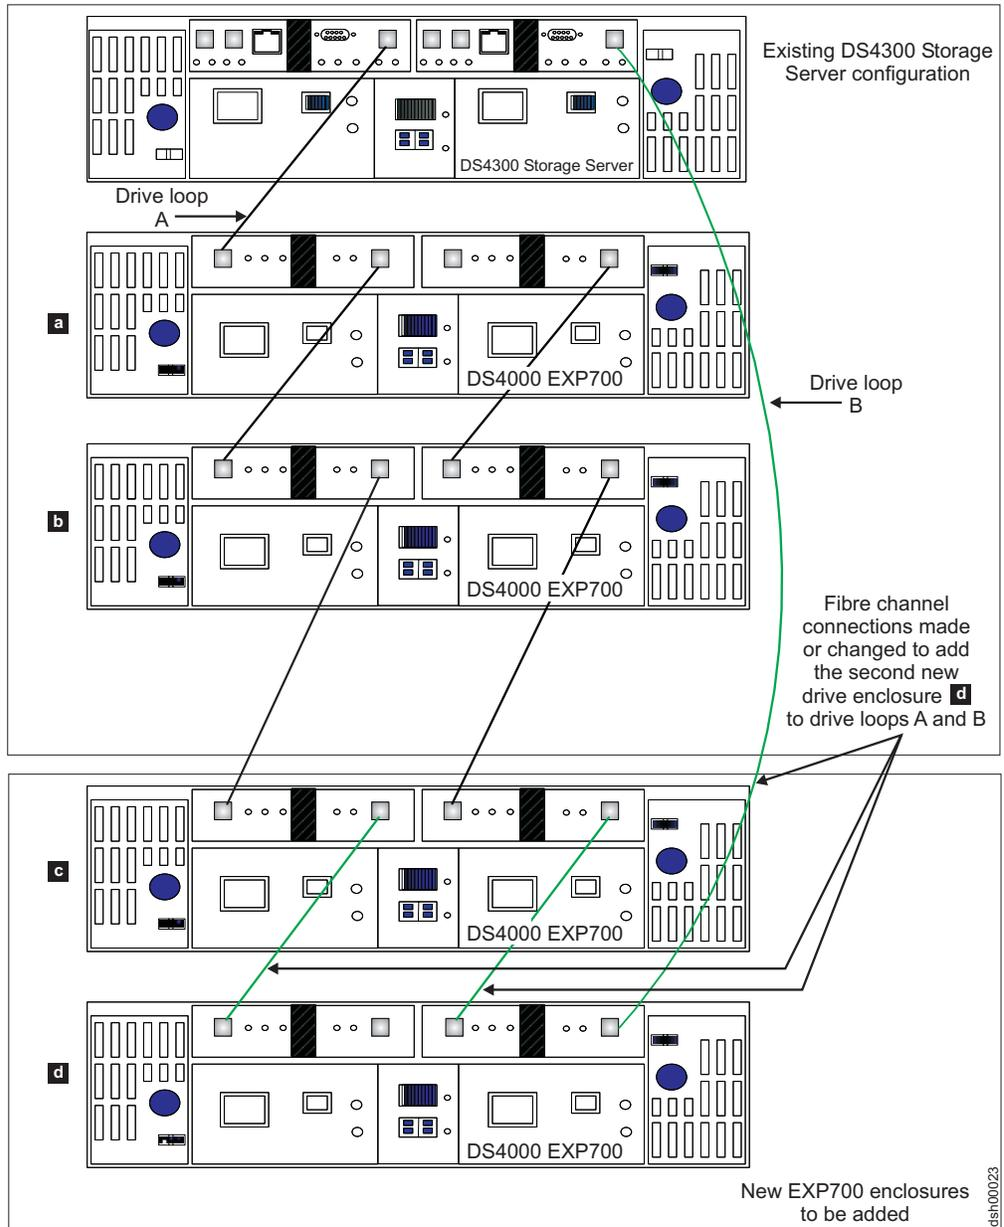

Figure 28. Cabling a second drive enclosure to the end of a functioning drive loop
- If you are connecting additional storage expansion enclosures to the end (bottom) of a drive loop, complete step2 on page 64 through step 7 on page 65, and step 1 (immediately preceding this step) for each additional storage expansion enclosure that you intend to add. (See Figure 28 on page 74.)